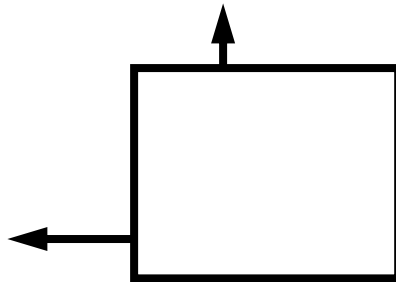

Fig. 3.8
- 3.8 Figure 3.8 shows a device which contains link mechanisms. Sketch the linkages inside the device that would be needed to allow for the indicated movements. (6)